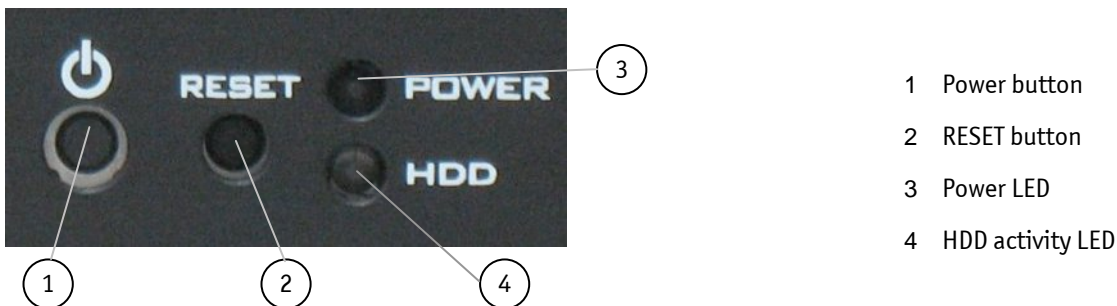

Fig. 10: CB 511 - controls and indicators
Press this button (Fig. 10, pos. 1) to power the system on or off.
The power LED (Fig. 10, pos. 3) and the HDD LED (Fig. 10, pos. 4) are located on the front side of the CB 511 platform and indicate the system status.
To restart the system, e.g. after a system hang-up, press the "RESET" button (Fig. 10, pos. 2). The system restarts automatically; you don't have to turn the computer off and on.